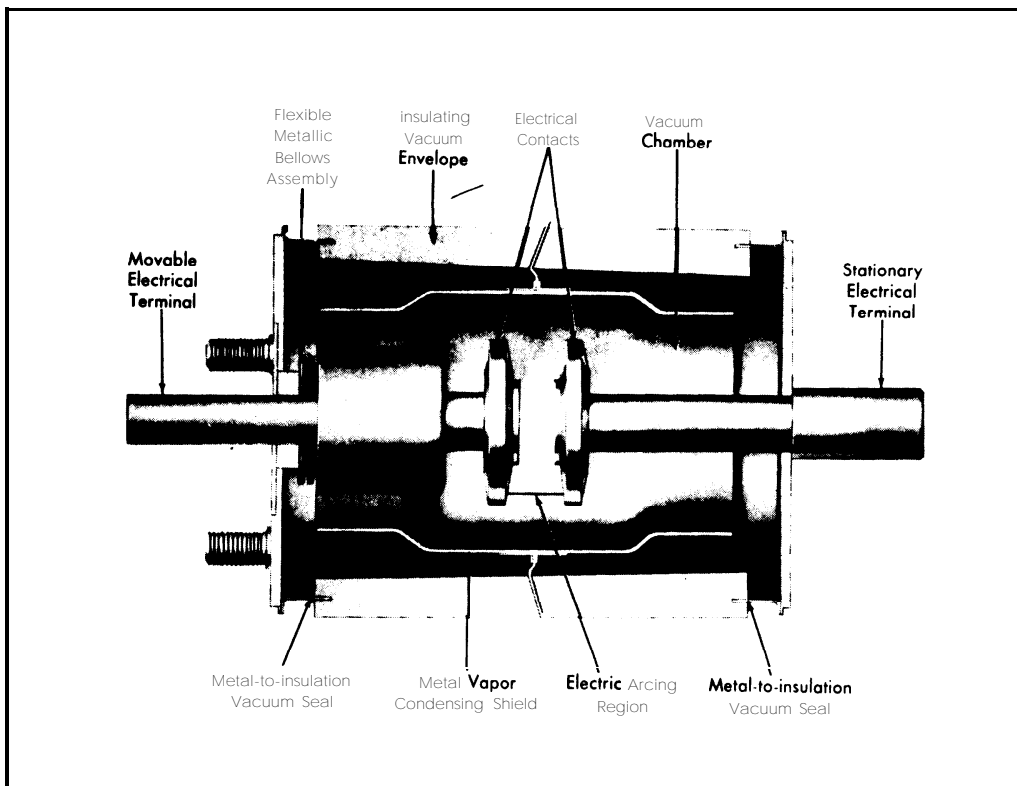

Figure 5-11. Cross sectional view of vacuum arc interrupter:
(3) *Vacuum circuit breakers.* Vacuum arc interruption is the newest and quickest method of extinguishing an electric arc. This type of breaker (see figure 5-11) is oil-less, fireproof and nearly maintenance free. Service life is very long. Arc interruption is very rapid, usually in the first current zero. High dielectric strength of a small vacuum gap contributes to the rapid interruption of the arc. Short contact travel permits the mechanism to part the contacts much faster than for oil breakers.
b. *Potential transformers.* A potential transformer (PT) is an accurately wound, low voltage-loss instrument transformer having a fixed primary to secondary "step down" voltage ratio. The PT is mounted in the high voltage enclosure and only the low voltage leads from the secondary winding are
ment is not possible. The operating mechanism is similar to that used in other medium voltage circuit breakers, and the general outlines are the same for maintenance work. The enclosures are similar. Figure 5-11 shows a breaker with the primary electrical contacts exposed. The stationary contact is solidly mounted; the moving contact is mounted in the enclosure with a bellows seal. Contact erosion is measured by the change in external shaft positions after a period of use. Consult the manufacturer's instruction book. High voltage applied during testing may produce X-ray emission. Personnel performing a hi-pot test must stay behind a protective shield during testing. Condition of the vacuum is checked by a hi-pot test applied every maintenance period. Consult manufacturer's instruction book for test procedures. The contacts in a vacuum circuit breaker cannot be cleaned, repaired or adjusted. The vacuum bottle is usually replaced if the test indicates a fault.